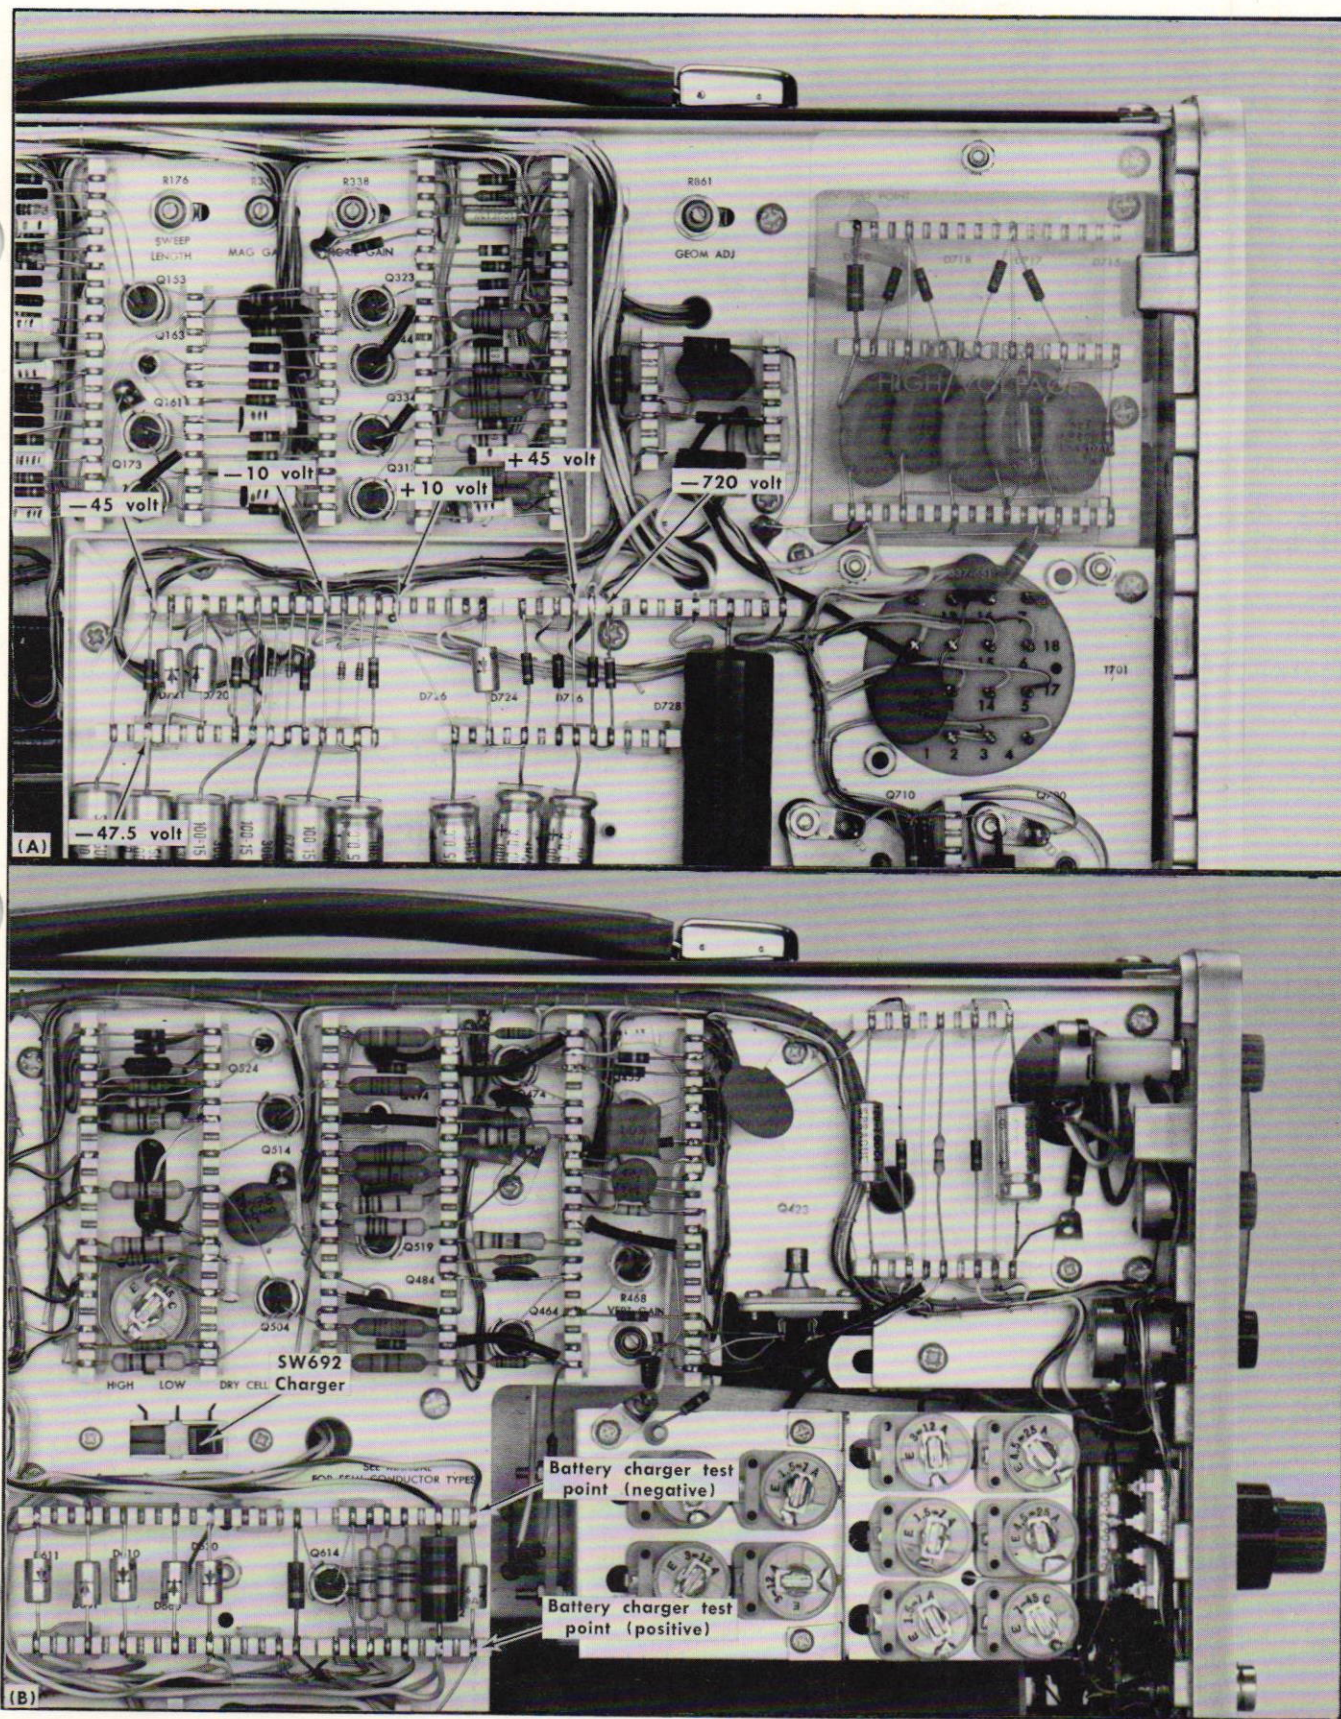

Fig. 5-3. Power supply test points. (A) Right side, (B) left side.
- a. CHECK—Table 5-1 lists the power supplies in this instrument. Check each supply with the DC voltmeter (VOM) for output voltage within the given range. Power supply test points are shown in Fig. 5-3.
- c. CHECK—Test oscilloscope display for maximum ripple of each supply as listed in Table 5-1. Power supply test points are shown in Fig. 5-3. Change the test oscilloscope vertical deflection factor as necessary to provide the correct display of the ripple.
- b. Connect the ammeter (VOM) to the battery charger test points shown in Fig. 5-3 (across D692). Observe the polarity shown.